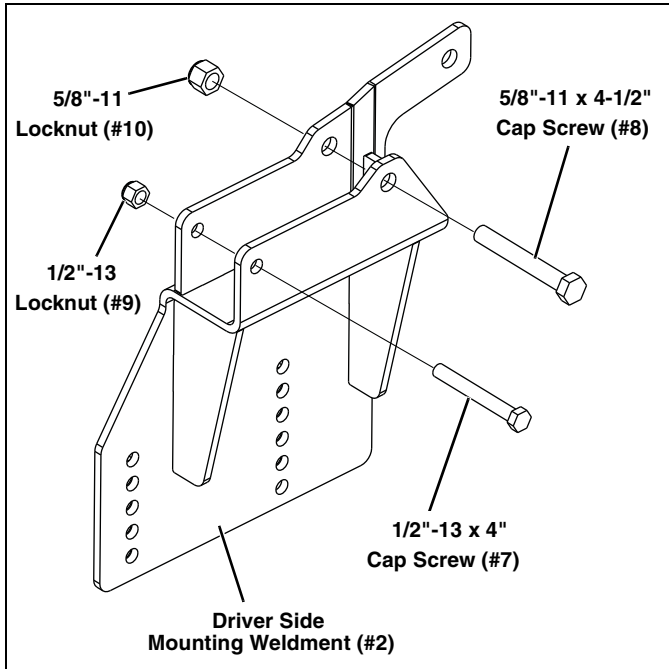

Figure 3
5. Align the Driver Side Mounting Weldment (#2) up to the frame and over the bumper bracket. Secure with (1) 1/2"-13 x 4" Cap Screw (#7), (1) 1/2"-13 Locknut (#9), (1) 5/8"-11 x 4-1/2" Cap Screw (#8), and (1) 5/8"-11 Locknut (#10). (See Figure 3.)